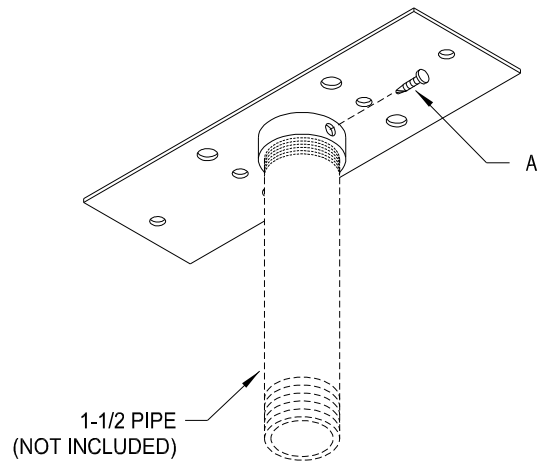

Figure 1
3. Secure the Coupling Plate to the structural part of the ceiling with suitable fasteners. See Figure 1.